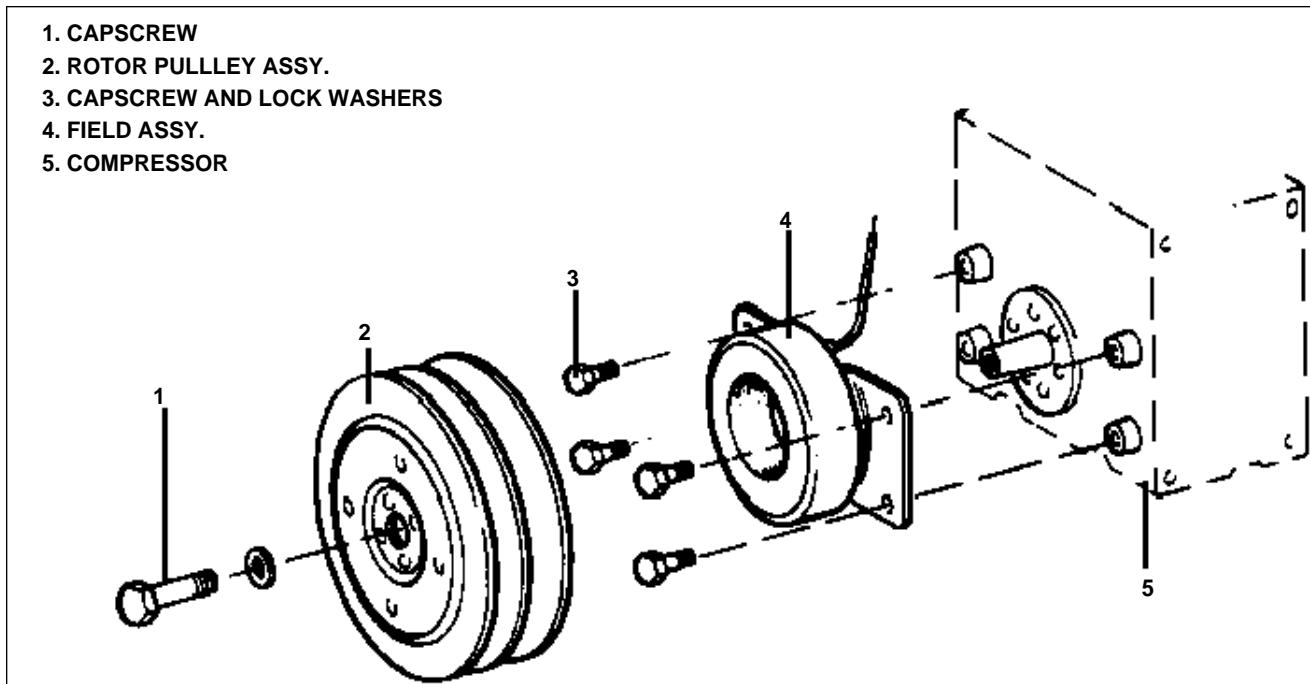

Figure 21-14. Magnetic Clutch
a. Magnetic Clutch Removal (Refer to figure 21-14.)
b. Magnetic Clutch Installation (Refer to figure 21-14.)
- (1) Adjust open limit switch to open condenser door 5.00 - 0.50 inches measured from leading edge of door to fuselage skin.
- (2) Adjust side push rods so a vertically measured gap of 0.16 inch exists along trailing edge of door the instant forward edge of door is flush with fuselage skin.
- (3) Fully close door and adjust CLOSED limit switch so actuator travels an additional 0.12 inch with door fully closed, (this is necessary to preload mechanism). (Refer to figure 21-14, View A-A.)
- (4) Cycle assembly several times. Verify proper operation without binding.